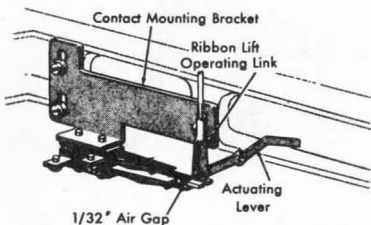

Figure 63. Selector Common Contact
2. Position the contact mounting bracket (Figure 63) so that the contact closes when any typebar is about $\frac{2}{3}$ of the distance from the type rest to the platen.